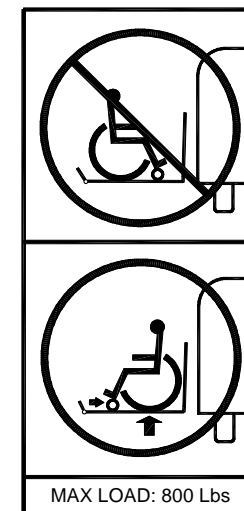

FIGURE 2-2: FACE OUTWARD
- Refer to **Figure 2-2**. Wheelchair occupant must FACE OUTWARD on platform while entering or exiting vehicle. This is necessary due to the possibility that the large rear wheels could roll over the front rollstop.